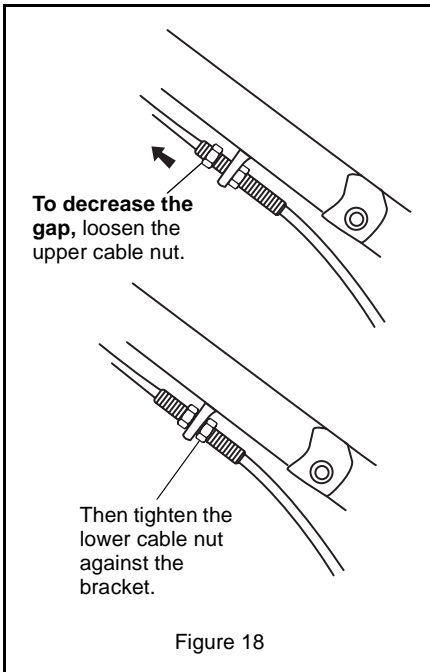

Figure 18
1. Loosen the upper cable nut on the wheel drive control cable, and then tighten the lower cable nut against the adjuster bracket. See Figure 18.